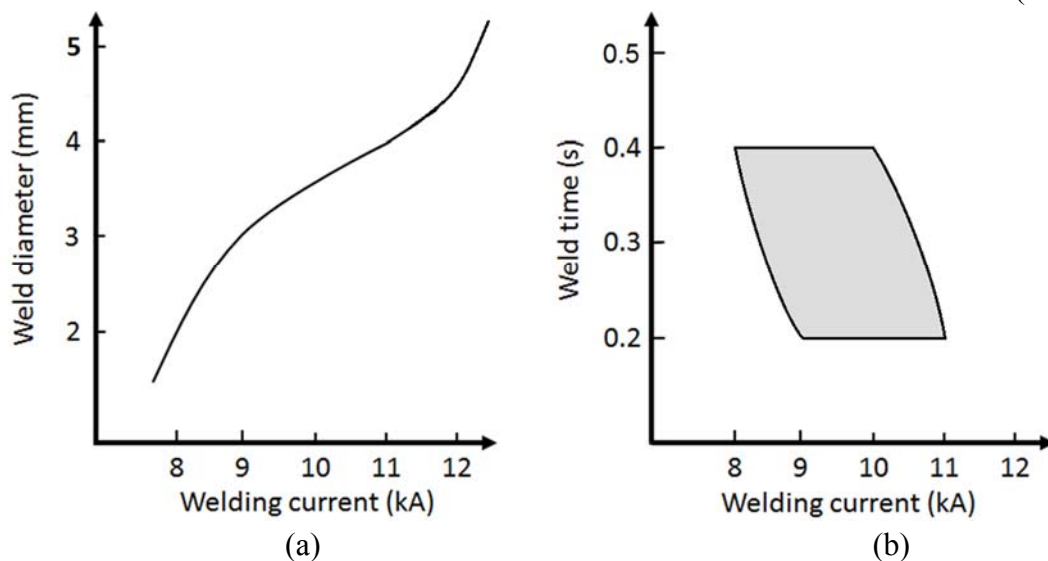

Figure Q1A: (a) Weld nugget growth curve and (b) Weldability range
A. In a car body assembly line, resistance spot welding is used to join steel workpiece with thickness of 3 mm. The expected weld nugget diameter of the spot welded workpiece is between 3.5 mm to 4 mm. Figure Q1A shows the weld nugget growth curve and weldability range of the steel workpiece. In May 2016, the assembly line did one (1) million spot welds per day. Let the total resistance ( $R$ ) of the workpiece is  $80 \times 10^{-6}$  Ohm and electricity cost is RM0.5/kW.h. Determine the range (minimum and maximum) of the electricity bill for the month of May 2016 of the assembly line from the spot welding process.